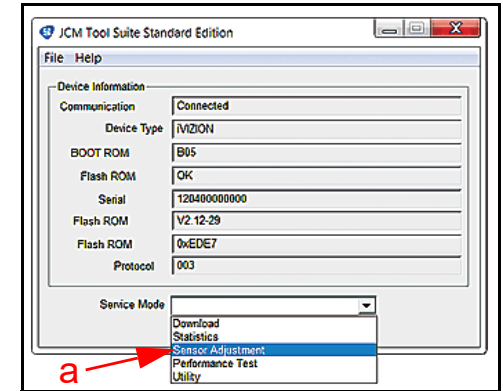

Figure 12 JCM Tool Suite iVIZION Calibration Screen
5. Click the "Service Mode" drop-down Menu, then select "Sensor Adjustment" (Figure 12 a).